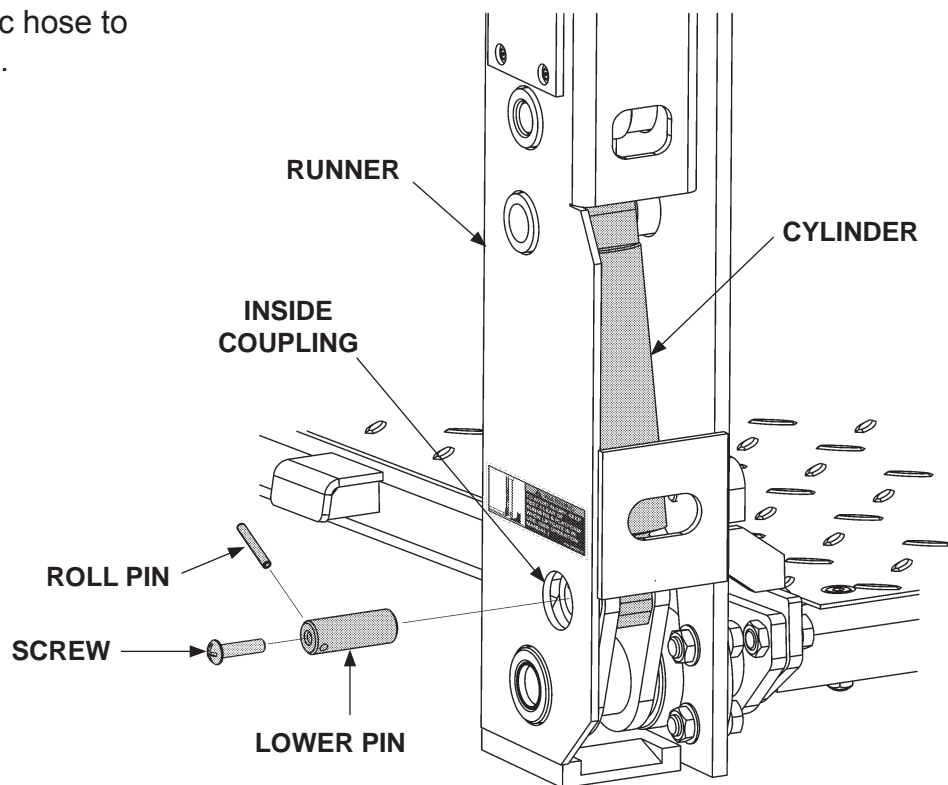

FIG. 21-1
4. Remove the lower pin plug and remove the lower roll pin from inside coupling (**FIG. 21-1**). Remove the lower pin by threading a 3/8" screw into the lower pin and pulling out on the pin. (**FIG. 21-1**).
5. Remove cylinder from runner (**FIG. 21-1**).
6. Place replacement cylinder in the correct position as shown in **FIG. 21-1**.
8. Install lower pin (**FIG. 21-1**) and roll pin in lower end of cylinder and inside coupling. Replace plug.